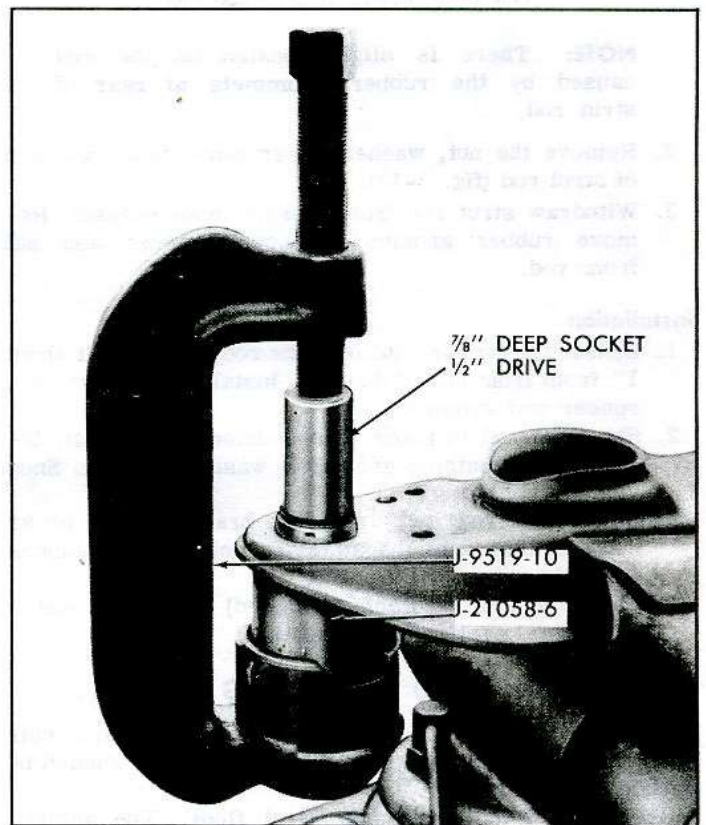

Fig. 3-18—Removing Spherical Joint
12. Install Tools J-9519-10, J-21058-6 and a 7/8" (1/2" drive) deep socket as shown in Figure 3-18.